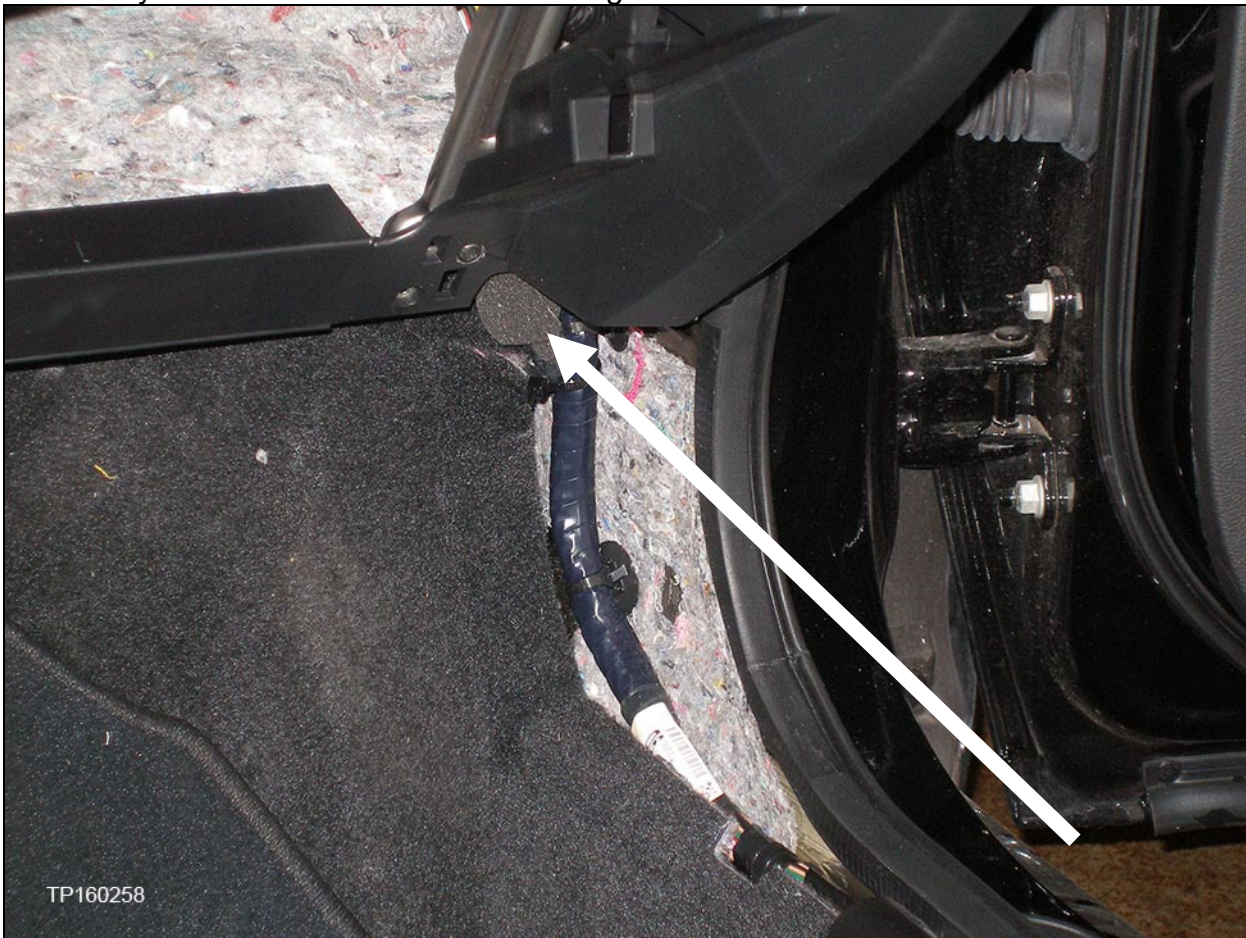

Figure 2
6. Identify the harness bundle shown in Figure 2 below.